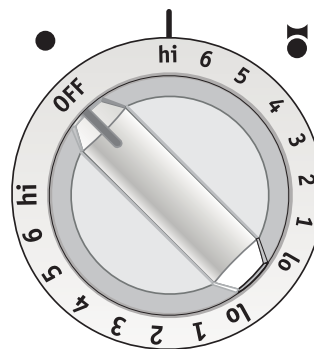

Figure 2
2. Push in and turn the control knob as shown in Figure 2 to heat the front portion of the Bridge element for normal shaped cookware or in Figure 3 for larger or rectangular shaped cookware. Turn the knob to adjust the setting if needed. Start most cooking operations on a higher setting and then turn to a lower setting to finish cooking. Each surface element provides a constant amount of heat at each setting. A glowing red surface heating area extending beyond the bottom edge of the cookware indicates the cookware is **too small**. Please note that not all cookware will fit the Bridge element correctly.